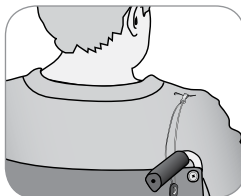

Fig. 19
- Out of the patient's reach (figs. 19 and 20).